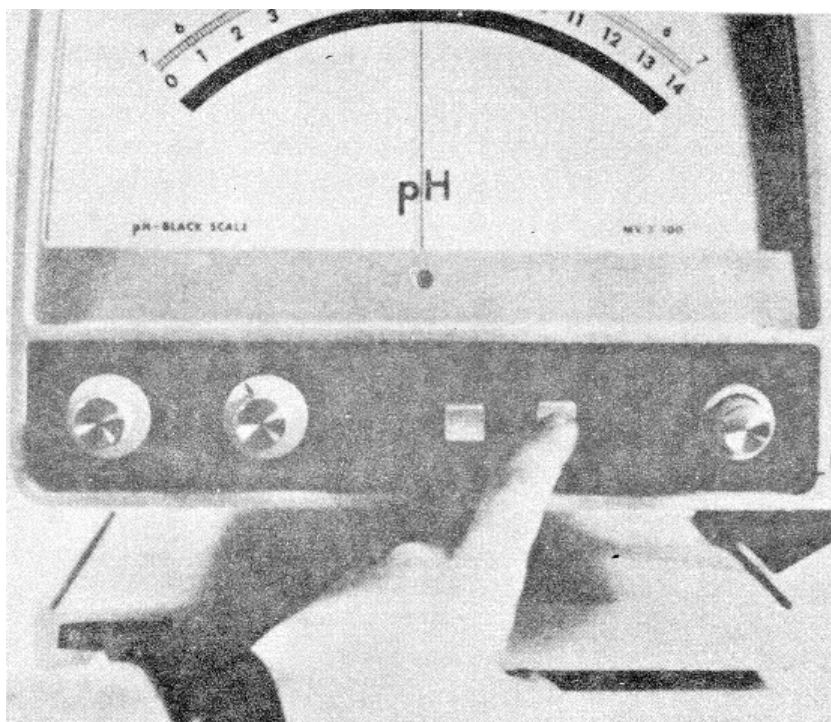

Figure 18
13. Depress the READ pushbutton, read, and record the pH of the sample from the pH scale (figure 18). Record your reading on the TRS.